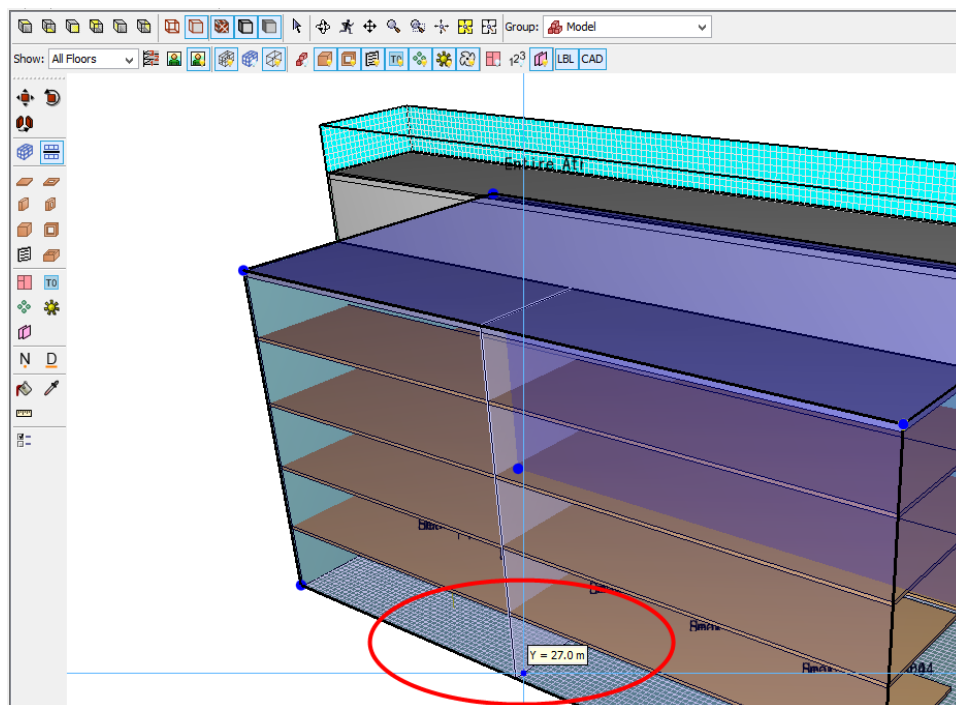

Figure 6: By moving cursor along edge, set the split mesh location, then click.
3. Drag the cursor along the lower edge of the mesh until it displays $Y=27.0$ m, then click, Figure 6.